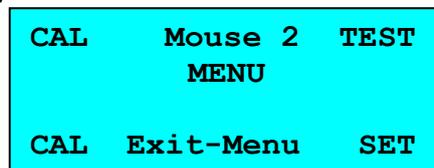

Figure 39: Main menu
- Once the weight is removed, after a short time, the screen will return to the Main menu (Figure 39).